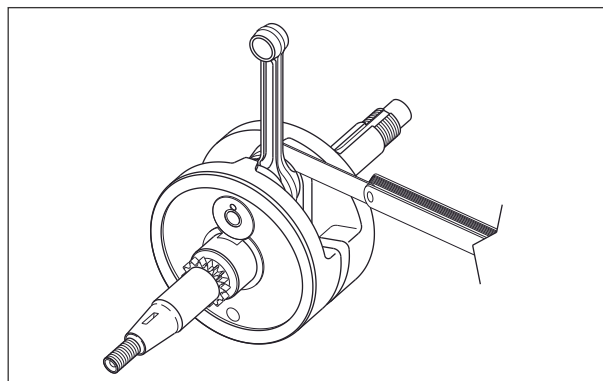

Fig. 3.173
- Measure connecting rod big end side clearance with a feeler gauge. If the clearance exceeds the service limit, replace the crankshaft assembly with a new one. (Fig. 3.173)